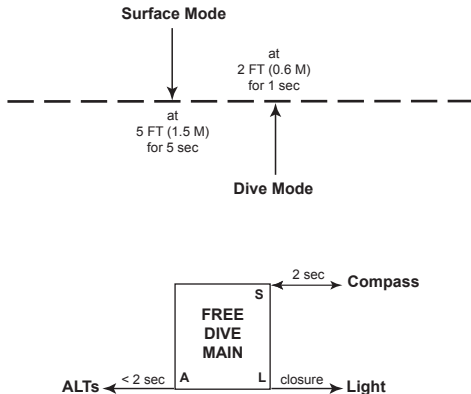

Fig. 123 - GAUG DV 3 ALT
**DV3 Alt**, information includes (Fig. 123) -